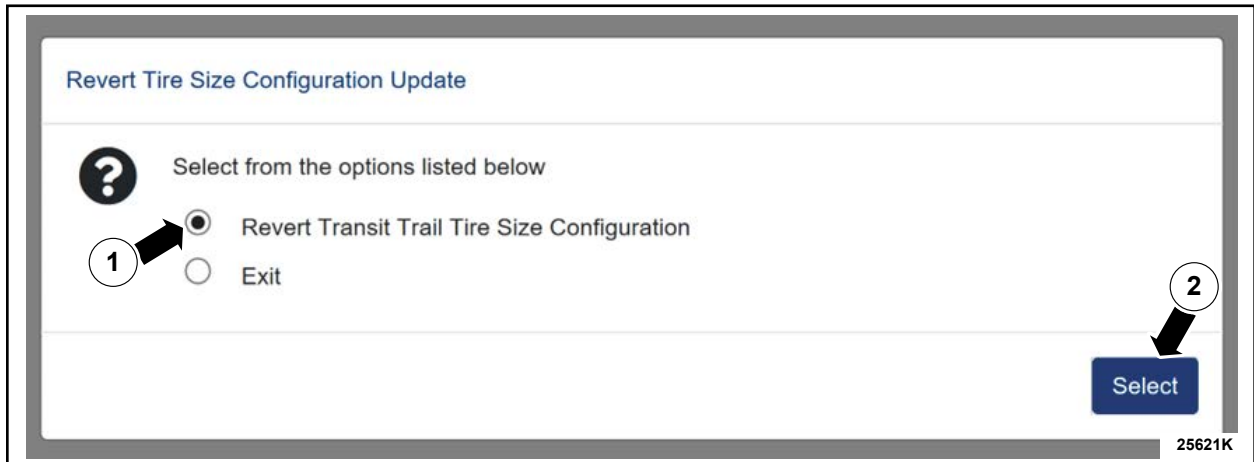

FIGURE 8
19. Select the **Revert Transit Trail Tire Size Configuration** from the menu. See Figure 8.